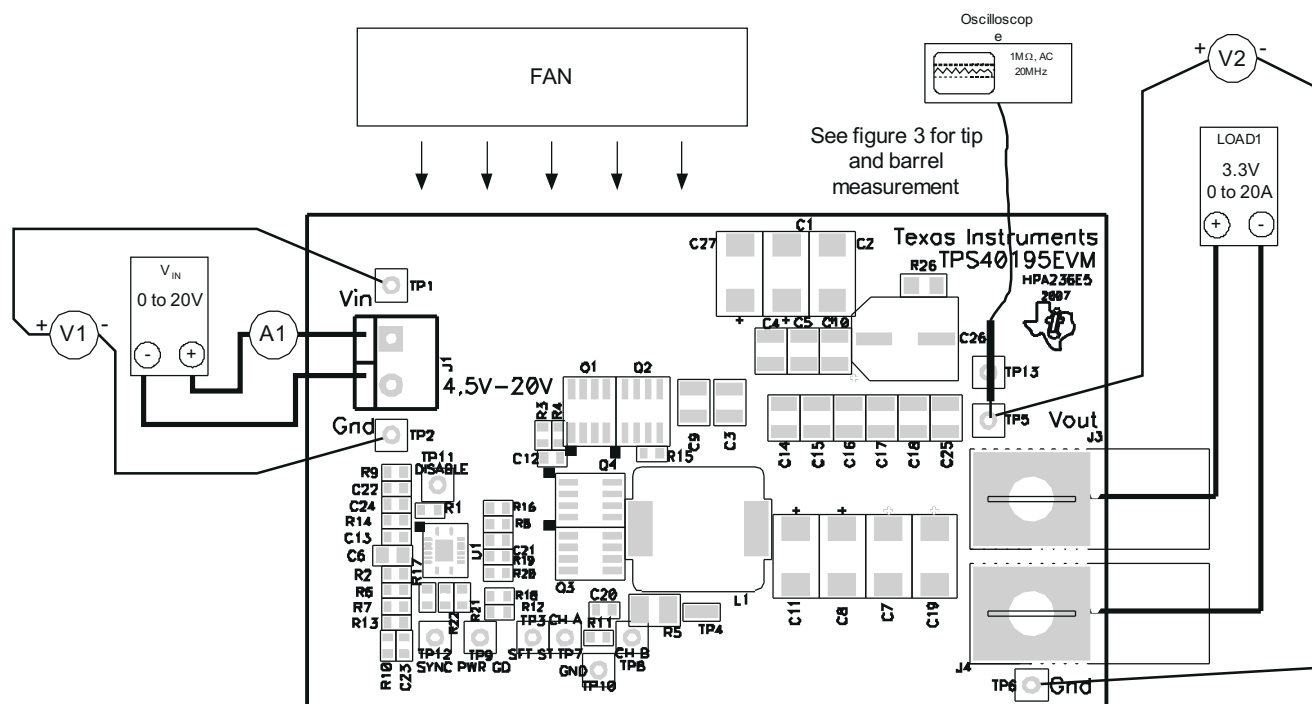

Figure 5-1. TPS40195EVM Recommended Test Setup
Shown in Figure 5-1 is the basic test setup recommended to evaluate the TPS40195EVM. Please note that although the return for J1 and J4 are the same, the connections should remain separate as shown in Figure 5-1.
2. Prior to connecting the DC input source, V_{IN} , it is advisable to limit the source current from V_{IN} to 20-A maximum. Make sure V_{IN} is initially set to 0 V and connected as shown in Figure 5-1.
3. Connect the ammeter A1 (0-A to 20-A range) between V_{IN} and J1 as shown in Figure 5-1.
4. Connect voltmeter V1 to TP1 and TP2 as shown in Figure 5-1.
5. Connect LOAD1 to J3 and J4 as shown in Figure 5-1. Set LOAD1 to constant current mode to sink 0 A_{DC} before V_{IN} is applied.
6. Connect voltmeter, V2 across TP5 and TP6 as shown in Figure 5-1.
7. Place Fan as shown in Figure 5-1 and turn on, making sure air is flowing across the EVM.
1. Set up the EVM as described in Section 5.2 and Figure 5-1.